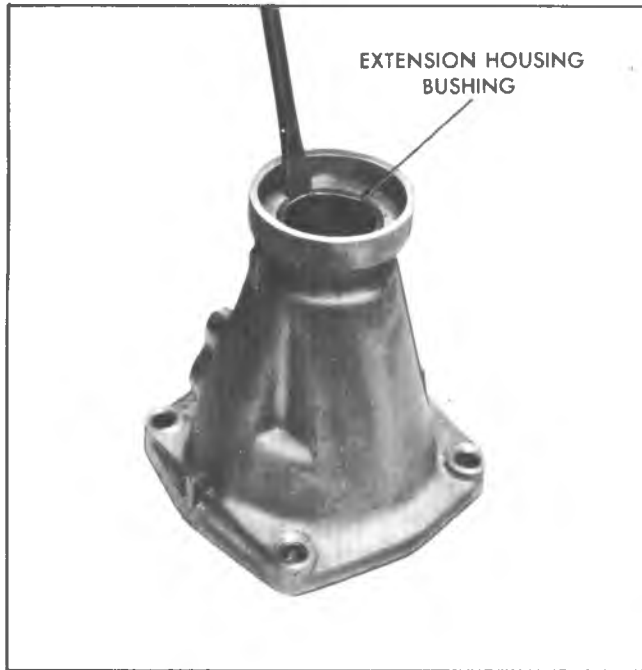

Fig. 5M--Removing Extension Housing Bushing
4. If extension housing bushing is to be replaced, collapse bushing (fig. 5M) and refer to Figure 94M for installation.